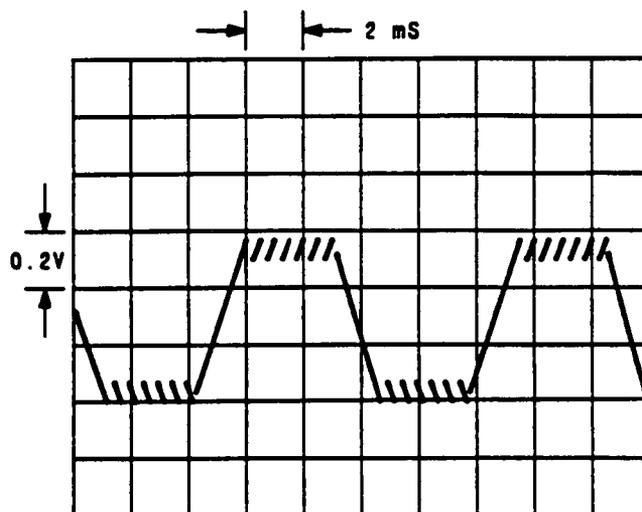

Figure 6. Oscilloscope Display of TP3 (dc coupled), Signal Generator's frequency 950 MHz, modulation EXT FM 5 kHz deviation (100 Hz square wave).
2. Connect Channel A to TP3 (FM INPUT), and verify that the waveform shown in Figure 6 is correct.